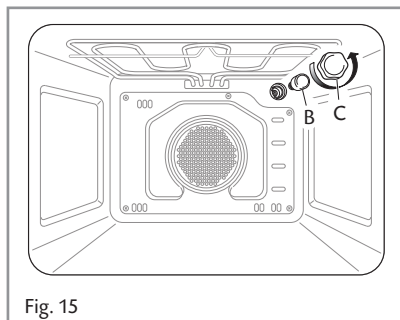

Fig. 15
- Unscrew the protective cover "C" (fig. 15);